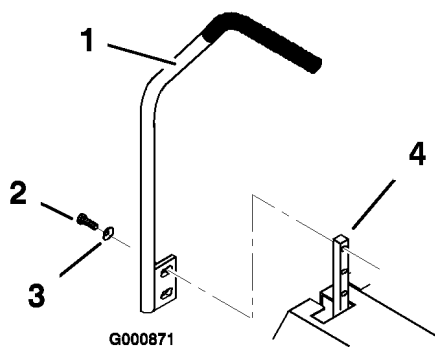

Figure 16
1. Remove the 2 screws and curved washers holding the control lever to the control arm shaft (Figure 16).
2. Move the control lever to the next set of holes. Secure the lever with the 2 screws and curved washers. The cupped side of the washer should be toward the control arm shaft (Figure 16).